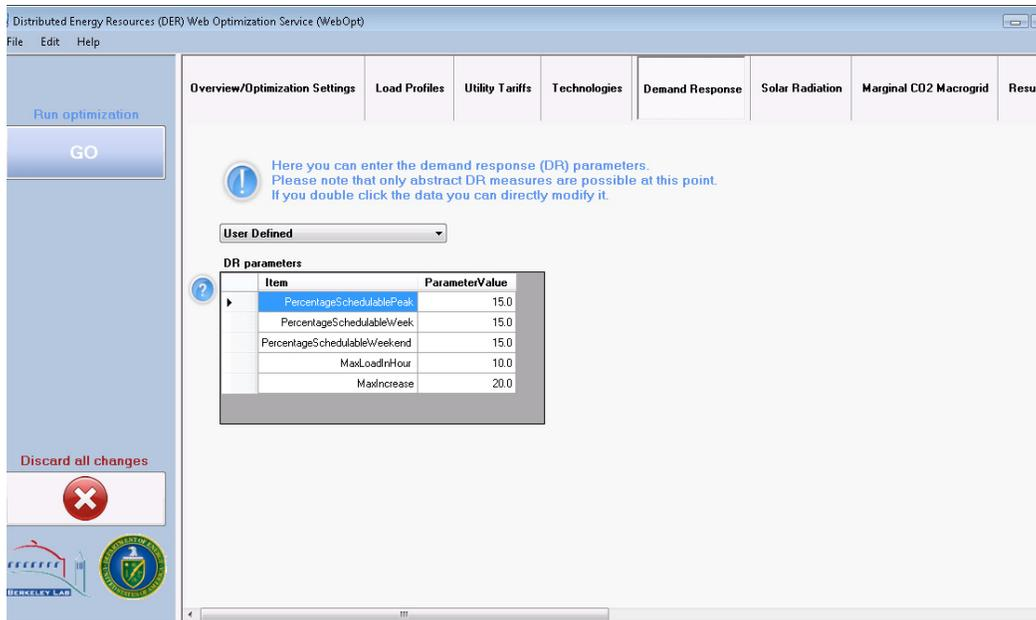

Figure 18. Demand Response parameters
On this tab the user can enter the demand response (DR) parameters, see Figure 18. To modify a cell, double click on the cell and directly enter the parameter value. Please note that only abstract DR measures are possible and that the value of MaxLoadInHour and MaxIncrease must be less than 1000. The percentage schedulable values are equivalent to the percentage of load (kW) that can be rescheduled (without any technology investments) to shoulder or off peak in a demand response event. WebOpt will determine within the user specified parameters the best solution to minimize costs.